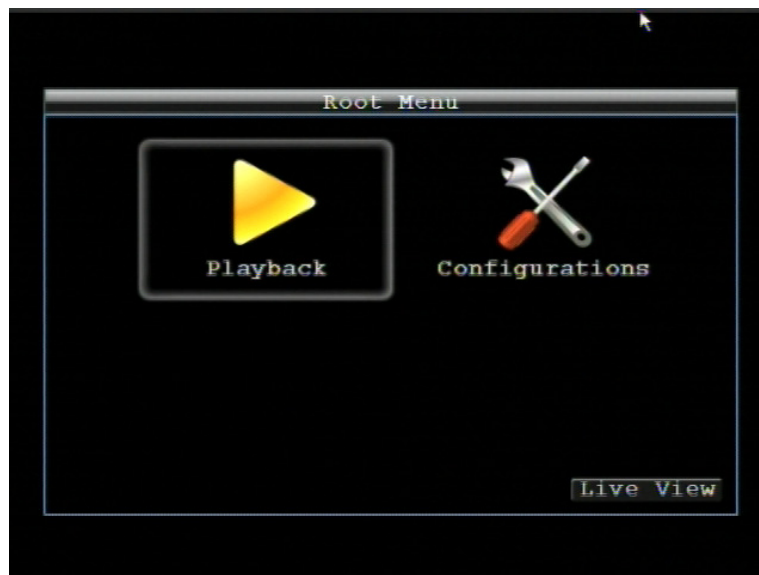

Figure 2-1 OSD Root Menu
1. Right-click the mouse to obtain the DVR Root menu (see Figure 2-1 OSD Root Menu).